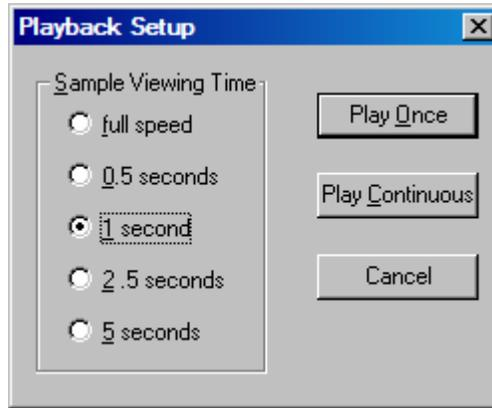

Figure 5-3
2. When you have selected the samples you want to view, select **Playback | Play**. The setup box shown in Figure 5-3 appears.